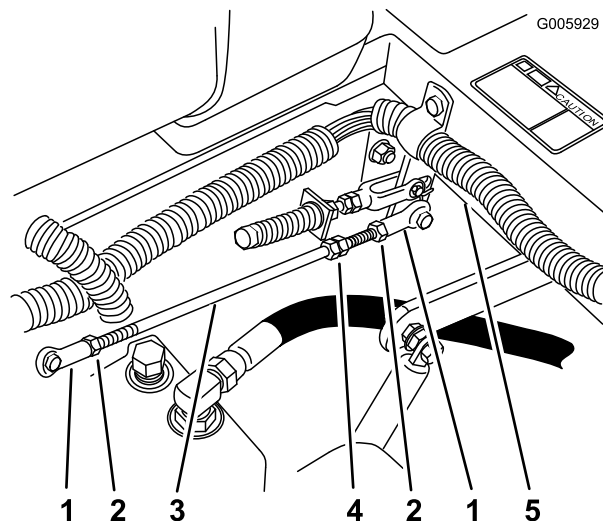

Figure 67
1. Loosen the locknuts at the ball joints on the pump control rod (Figure 67).
3. Adjust the pump rod length by rotating double nuts on rod, in the appropriate direction, until wheel is still or slightly creeps in reverse (Figure 67).
- Tighten the locknuts at the ball joints (Figure 67).